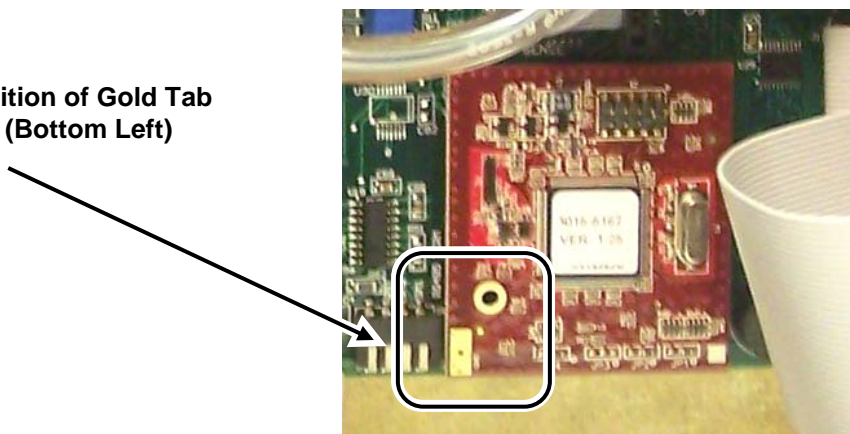

Figure 3. Orientation of Microprocessor Module
3. Note the orientation of the module, specifically the gold tab and hole oriented on the bottom left of the board. Refer to Figure 3.
4. Orient the new microprocessor so the gold tab and hole are at the bottom left corner (refer to Figure 3).
3. Orient the new microprocessor so the gold tab and hole are at the bottom left corner (refer to Figure 3).